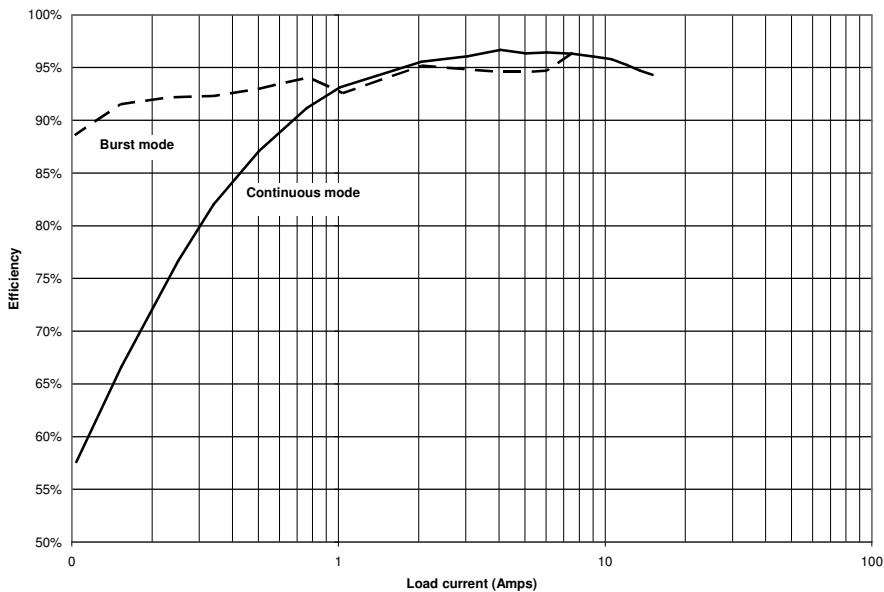

Figure 4. Typical efficiency curve of 3.3V rail at an input voltage of 12V.
7. Once the proper output voltages are established, adjust the loads and input voltage within their respective operating range and observe the output voltage regulation, ripple voltage, efficiency and other parameters. Refer to Figures 4 through 13 for efficiency curves and plots showing the output voltage ripple, load step response and rail tracking performance.